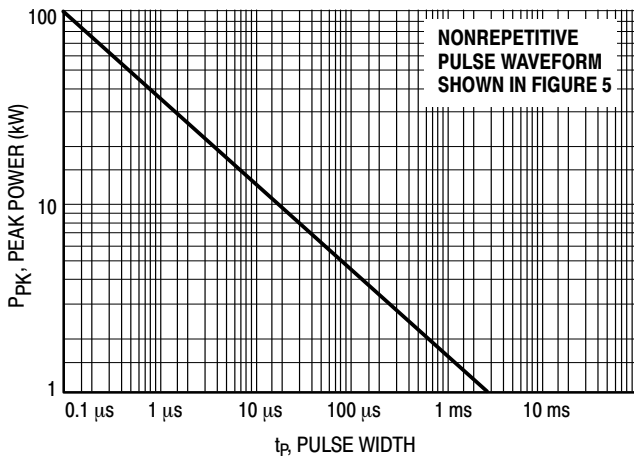
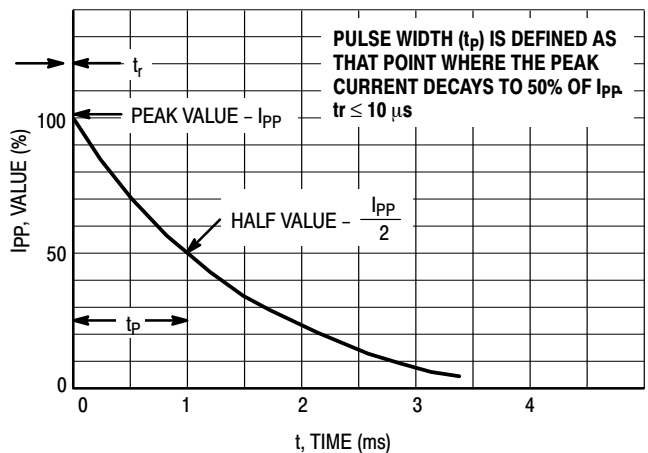
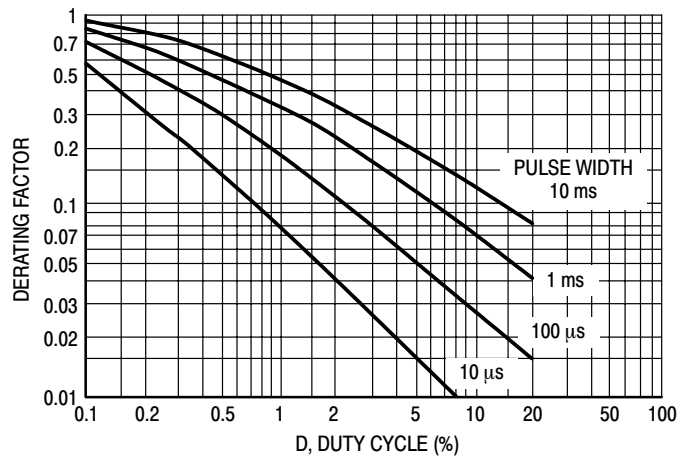

Figure 1. Pulse Rating Curve
Figure 5. Pulse Waveform
Figure 7. Typical Derating Factor for Duty Cycle
7. Surge current waveform per Figure 5 and derate per Figures 1 and 2.
The data of Figure 1 applies for non-repetitive conditions and at a lead temperature of 25°C. If the duty cycle increases, the peak power must be reduced as indicated by the curves of Figure 7. Average power must be derated as the lead or
At first glance the derating curves of Figure 7 appear to be in error as the 10 ms pulse has a higher derating factor than
the 10 μ s pulse. However, when the derating factor for a given pulse of Figure 7 is multiplied by the peak power value of Figure 1 for the same pulse, the results follow the expected trend.